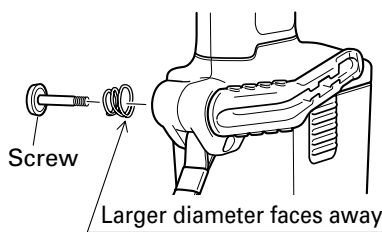

Fig. 8
- (c) Install the hook and spring on the other side and securely fasten with screw. (Fig. 8)
Pay attention to the spring orientation. Install the spring with larger diameter away from you. (Fig. 8)